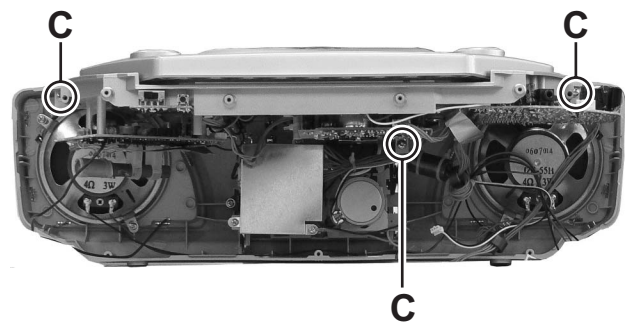

Fig.6
- (4) Remove the three screws **C** attaching the Top cabinet assembly. (See Fig.6)